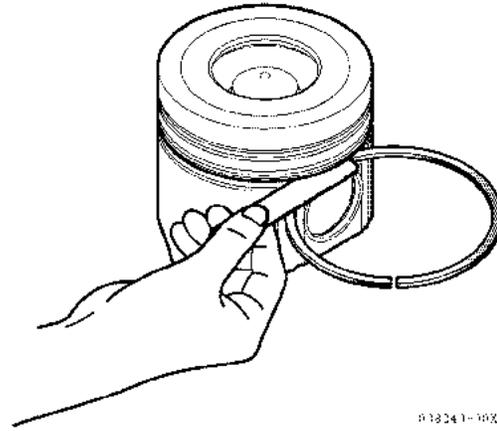

Figure 5-90
- ♦ Measure the thickness and width of the rings, and the ring-to-groove clearance after installation. Replace if wear exceeds the limit (**Figure 5-90**).